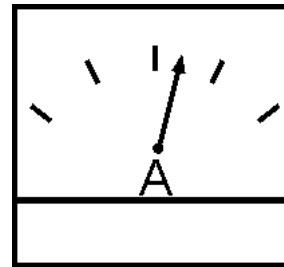

Figure 58. Ammeter (Load)
17. Observe the generator's ammeter (Figure 58) and verify it reads the anticipated amount of current with respect to the load. The ammeter will only display a current reading if the load is in use.